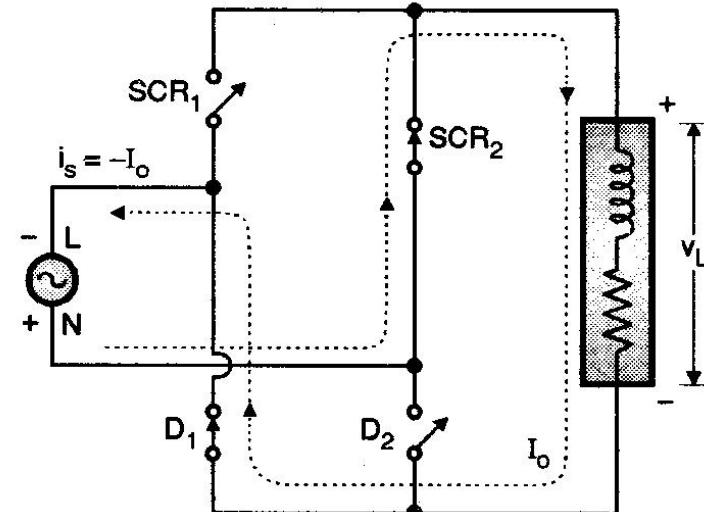

Fig. 2.24 : Equivalent circuit for mode III
- Mode III begins at instant $\omega t = (\pi + \alpha)$. At this instant the ac input voltage is negative as shown in Fig. 2.24 . This forward biases SCR₂ and D₂.
- At $\omega t = \pi + \alpha$ the current starts flowing through SCR₂, load and D₂ as shown in Fig. 2.24 . The load voltage becomes positive and equal to instantaneous supply voltage.